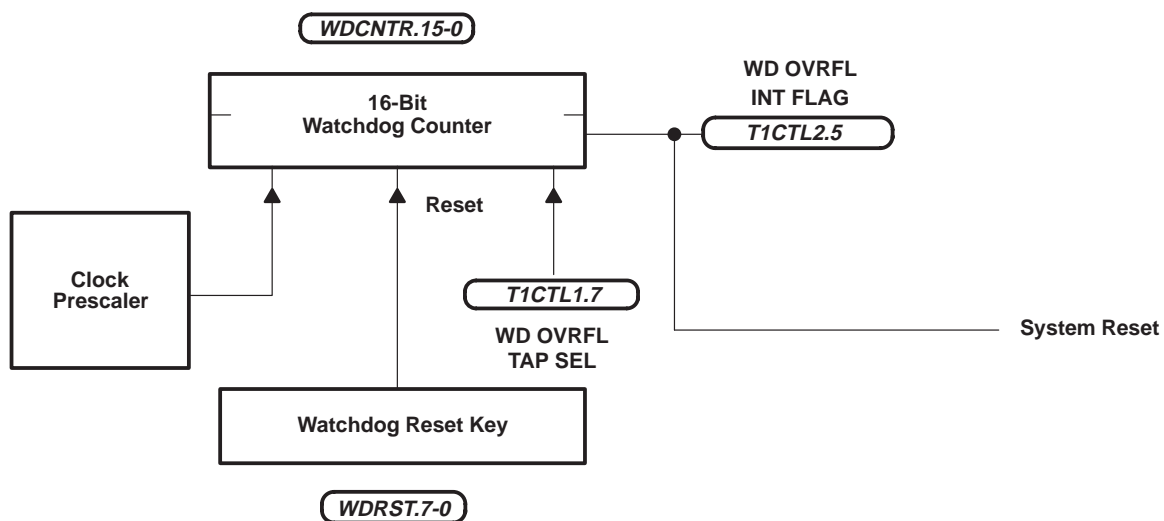

Figure 9. Hard Watchdog
- Hard watchdog configuration (see Figure 9) – for mask-ROM devices